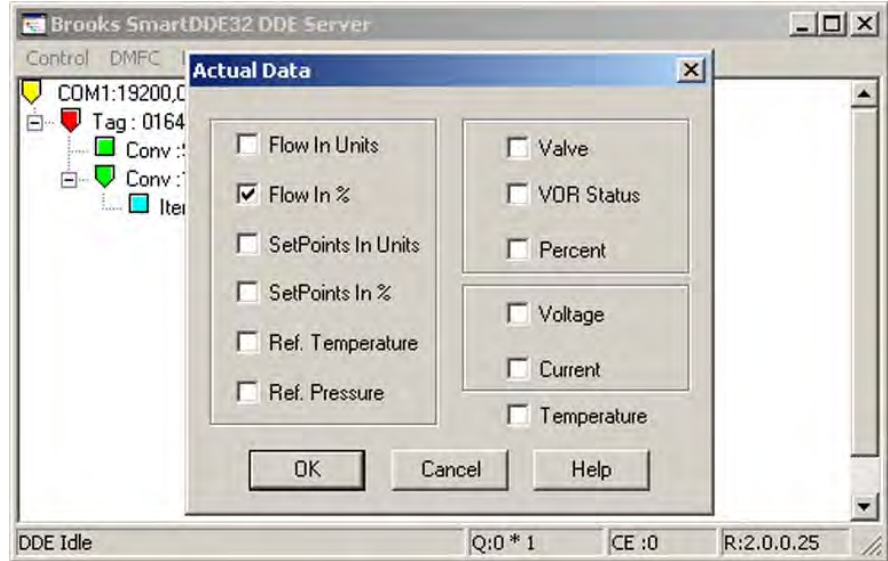

Figure 5.1 Select the Desired Item Using the Actual Data Window
3. Select the **Device data|Actual data** option from the menu bar and click with the left mouse button on the **Flow in %** check box (see Figure 5.1). Press the OK button to accept the selection made.